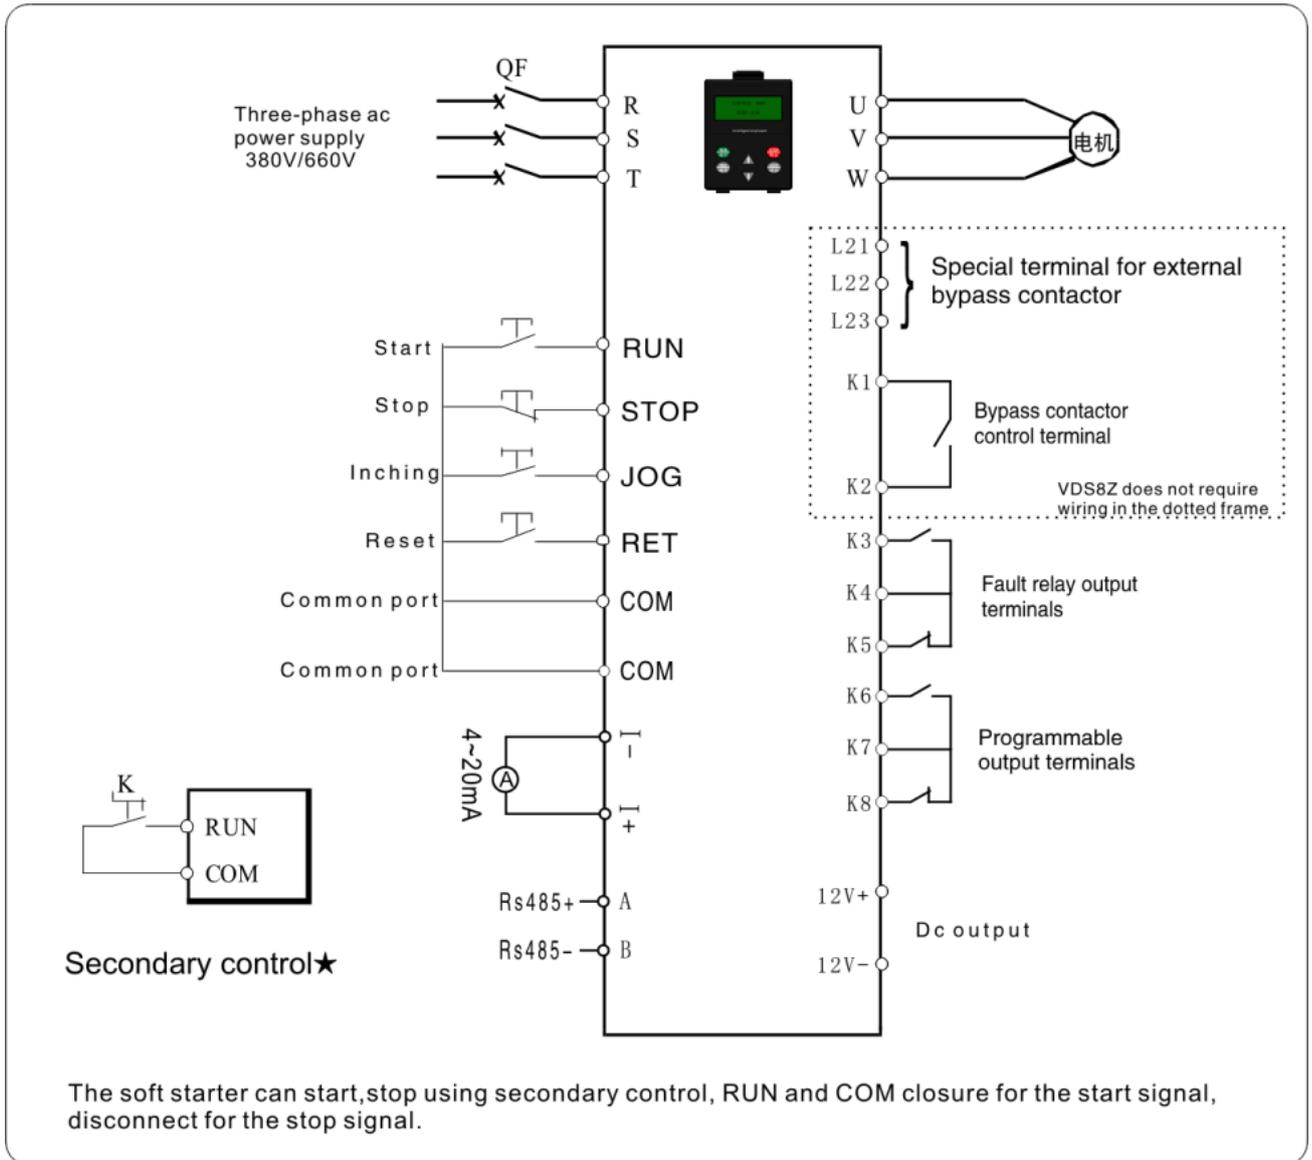
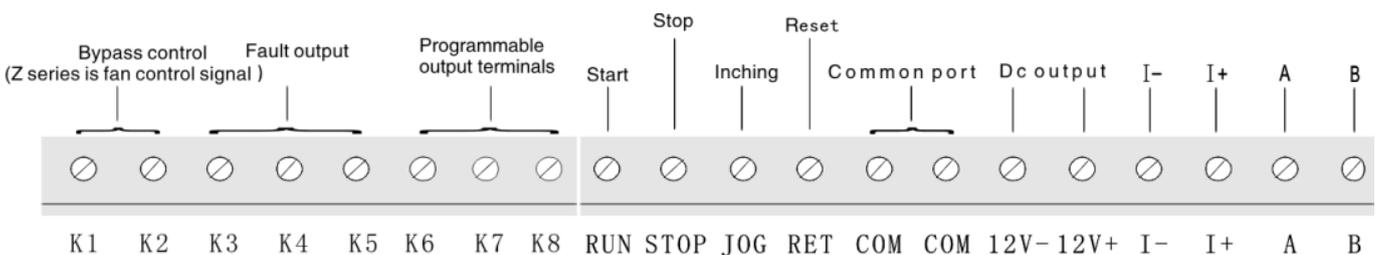

图5-1
图5-2
Fig. 5-1 and Fig. 5-2 are all external terminals of VDS8 series soft starters for users. Detailed functions are shown in Table 5-1 "Basic wiring diagram description".
★ ① There are two connection modes for external control start-stop signal. When using two-wire control, the STOP terminal is not connected; see basic wiring figure 5-1 for details.
② The setting of programmable output can be seen in detail: the relay function in the above table.